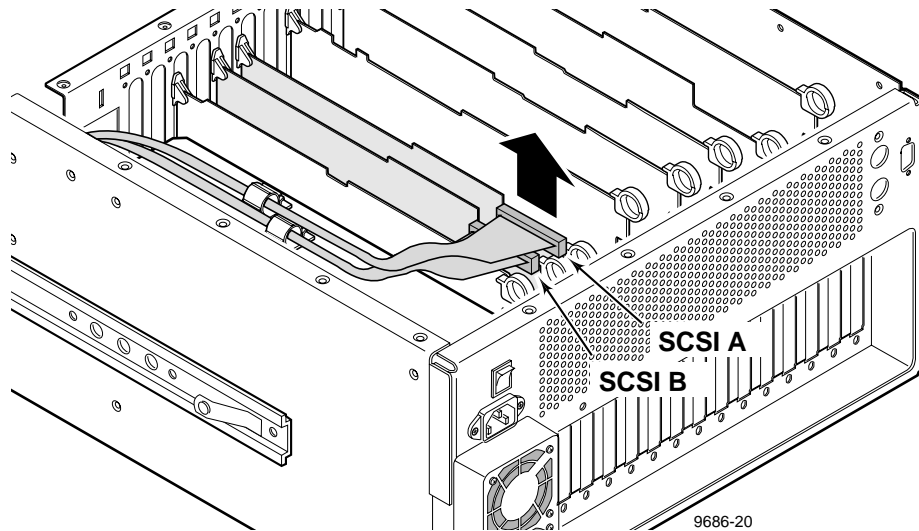

Figure 5. Disconnecting the SCSI cables
1. Carefully pull up on the SCSI A and SCSI B connectors to disconnect them from the master and slave disk recorder boards respectively as shown in Figure 5.